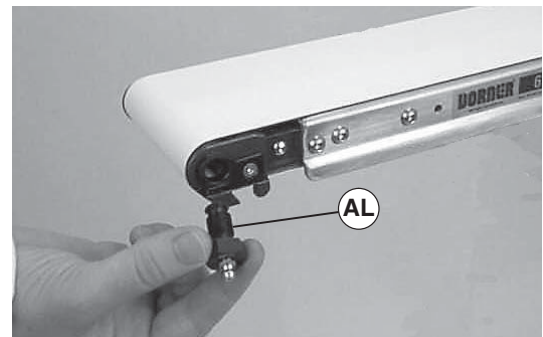

Figure 19
2. Install Dorner greasing adapter (part # 200046M) (Figure 19, item AL). Make sure the adapter shoulder is seated against the conveyor tail plate.